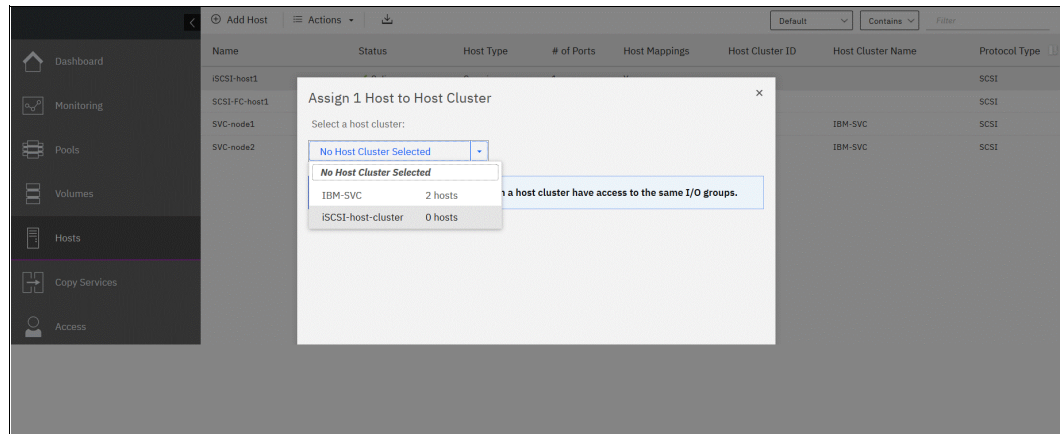

Figure 7-34 Assigning a host to a cluster
2. Select the existing cluster to which you want to add the host, as shown in Figure 7-34, and click **Next**.